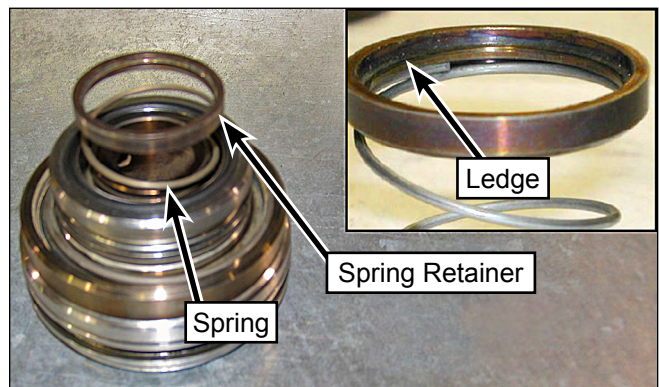

Figure 86: Install Suction Valve Spring and Retainer.
4. Insert the suction valve spring and spring retainer into the valve body. Ensure the ledge the retaining ring sits on is positioned properly (Figure 86).